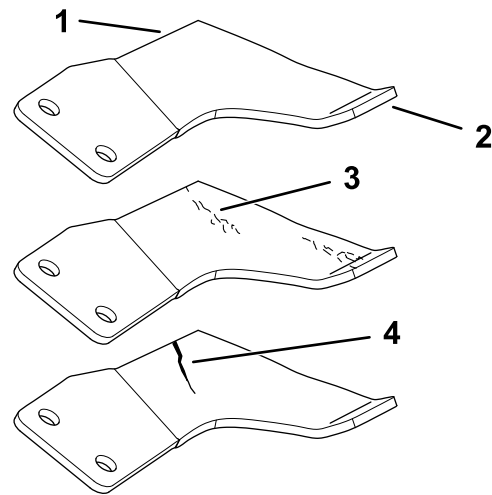

Figure 103
1. Inspect the cutting edges (Figure 103).
4. If you notice any cracks, wear, or a slot forming in this area, immediately install a new blade (Figure 103).